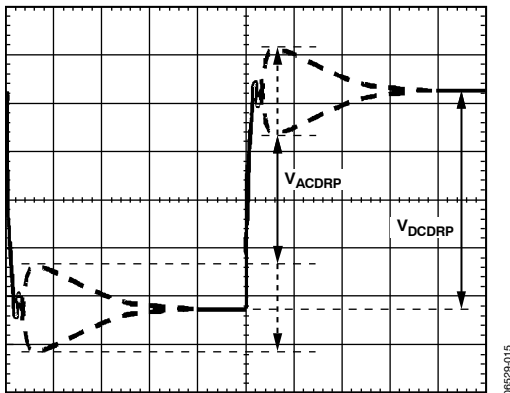

Figure 14. AC Load Line Waveform
- Measure the output waveform (if not visible, use dc offset on scope to view). Try to use a vertical scale of 100 mV/div or finer. This waveform should look similar to Figure 14.